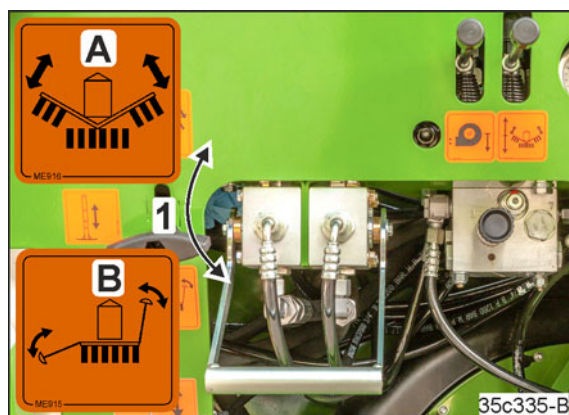

Fig. 228
8. Set the valve lever (Fig. 228/1) to position "B" and leave it in position "B" during operation.